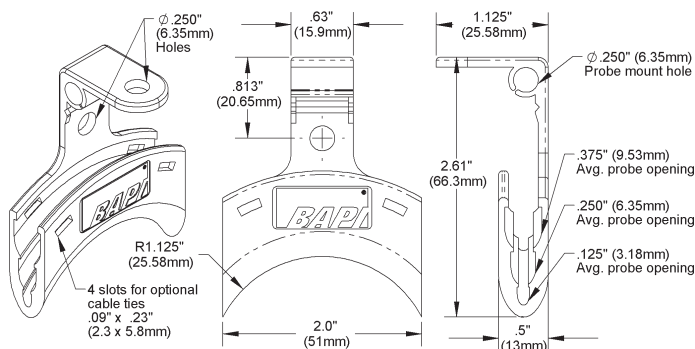

Fig 6: Flexible Probe Bracket (BA/FPB)
2. Insert the probe by unrolling the sensor into the duct carefully to avoid kinking the sensor. Serpentine the duct with the sensor at least twice across the stratified air in the duct to achieve the best average temperature reading. At the sensor reversing points, a Flexible Probe Bracket (see Fig. 6) can be used to support the sensor and to avoid kinking the sensor.